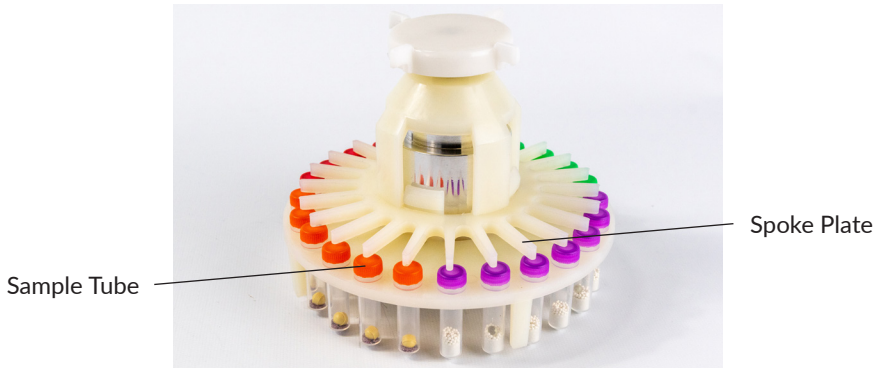

Fig. 7
- Uplift and rotate the Spoke Plate counter-clockwise so that the retention spokes take the position above each sample tube cap. Place the Securing Knob (Ratchet Nut) on the assembly to tighten it completely (Ref. Fig. 7). The Securing Knob should be ratcheted several times (not just once). It is good practice to push down on the nut while twisting to secure the part, make sure you hear several clicking sounds.